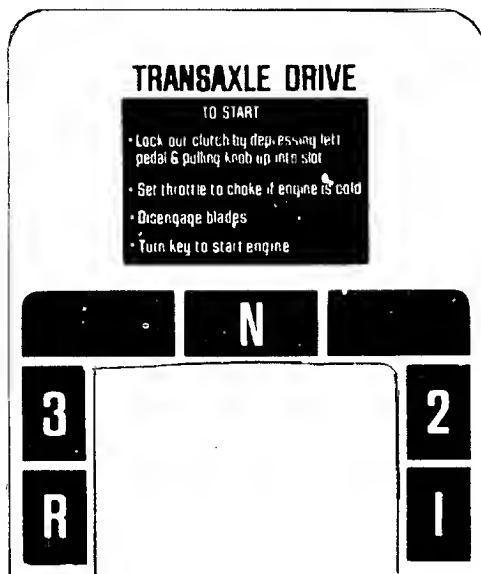

FIGURE 8. SHIFT PATTERN
f. Clutch Lockout. When the clutch pedal is depressed all the way it can be locked by placing the clutch lockout in the START position as shown in figure 8. The clutch lockout must be in this position before the engine will start.